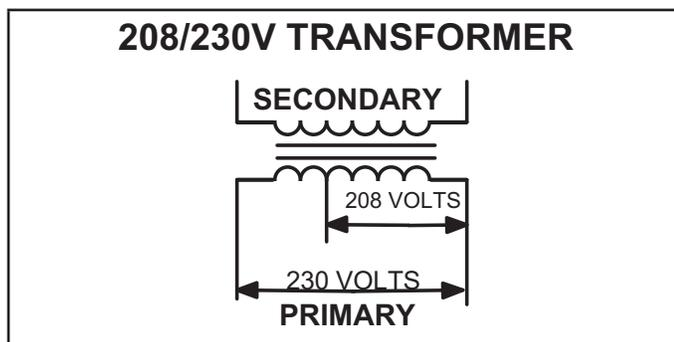

FIGURE 3
All use a single line voltage to 24VAC transformer mounted in the control box. Transformer supplies power to control circuits in the unit. The transformer is rated at 70VA and is protected by a 3.5 amp circuit breaker (CB8) which is located on the transformer itself. The 208/230 (Y) voltage transformers have two primary voltage taps, but only one may be used depending on supply voltage. See FIGURE 3.